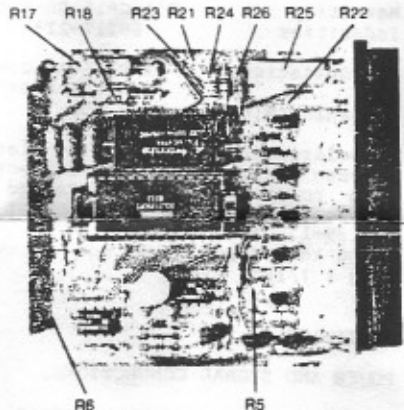

Figure 4. Component Location
Increasing the value of R6 dims the number display. See figure 4 for component location. As shipped from the factory, R6 is a jumper. Removing the jumper blanks the number display.
2. Observe resistor values for R17 and R18 and compare to table I and figure 4 below. Install resistors of values specified in table I to obtain desired range.